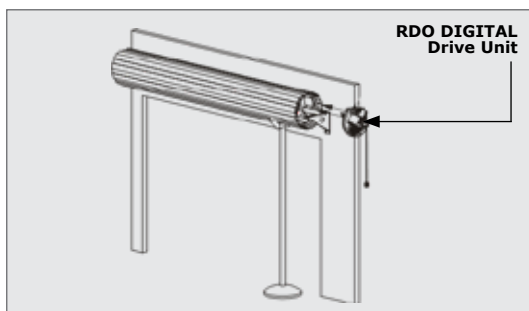

FIGURE 12. RHS CONFIGURATION
3. Place a suitable prop under the door as close to the edge (to which the drive unit is being fitted) as possible. The prop should be adjusted so that it sits firmly under the door. See Figure 12.